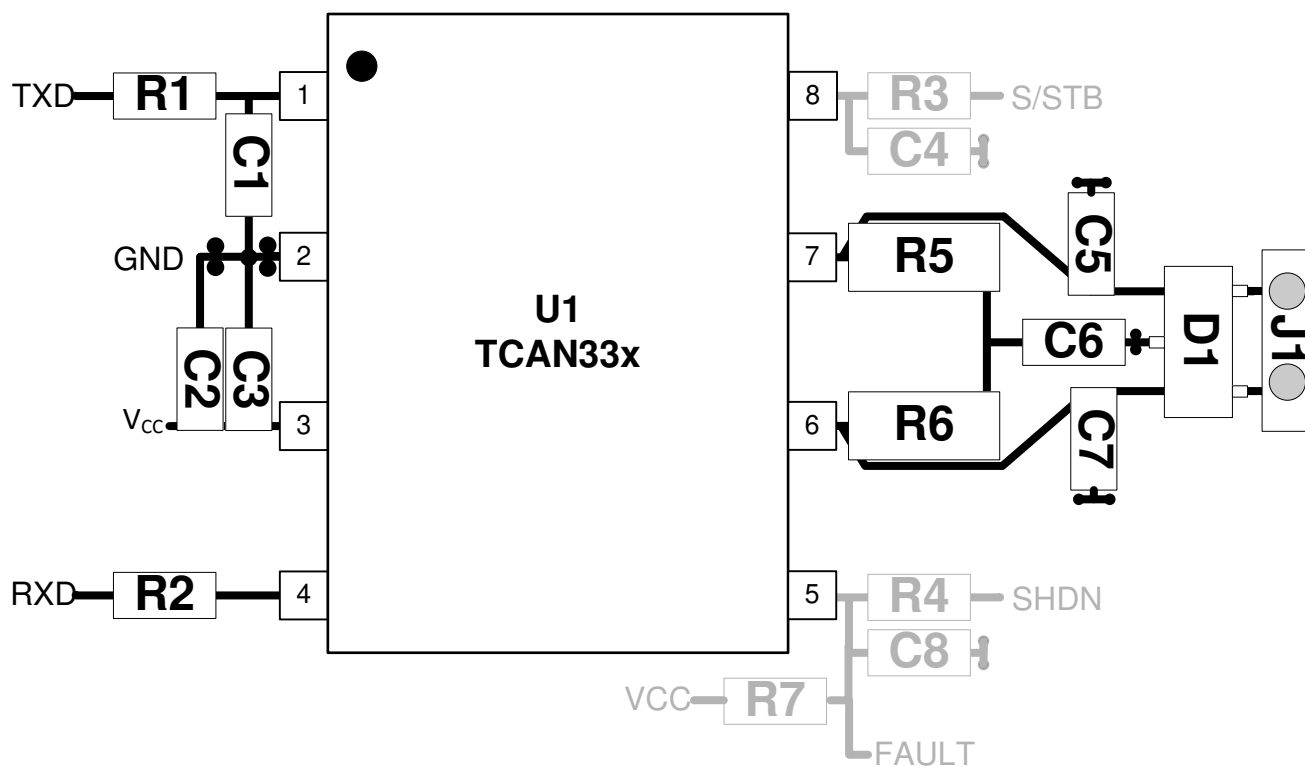

図 7-7. Layout Example
- Transient Protection on CANH and CANL: Transient Voltage Suppression (TVS) and capacitors (D1, C5 and C7 shown in Figure 7-7) can be used for additional system level protection. These devices must be placed as close to the connector as possible. This prevents the transient energy and noise from penetrating into other nets on the board.
- Bus Termination on CANH and CANL: Figure 7-7 shows split termination where the termination is split into two resistors, R5 and R6, with the center or split tap of the termination connected to ground through capacitor C6. Split termination provides common mode filtering for the bus. When termination is placed on the board instead of directly on the bus, care must be taken to ensure the terminating node is not removed from the bus, as this causes signal integrity issues if the bus is not properly terminated on both ends.